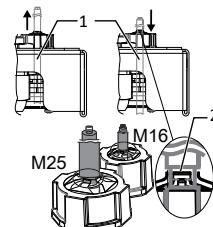

Fig. 14: Connecting the shield to the EMC screw fitting
- 1 Open and close the door completely to check that the cables (1) are not subject to tensile or compressive forces.
- 2 Mark the position for connecting the shield on the clamping ring (2) of the EMC screw fitting.
- 4 Pull the cables back to the shielding point until full shielding is provided by the clamping ring and the connecting cable cannot be displaced. [See figure 14]